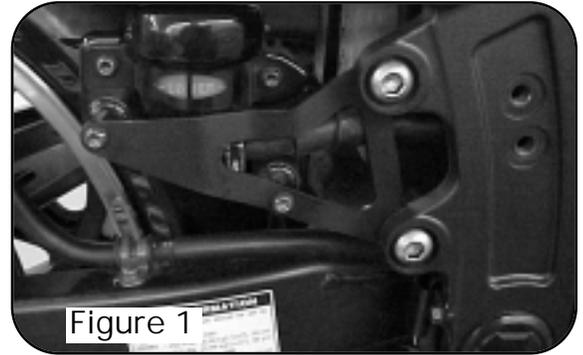

Figure 1
2. Install rear brake master cylinder reservoir bracket (stamped 333) using saved M10 x 25 bolts and supplied M10 lock nuts (Figure 1).
3. Attach rear brake master cylinder reservoir to bracket (stamped 333) using saved M6 x 35 screws and supplied M6 lock nuts (Figure 1).